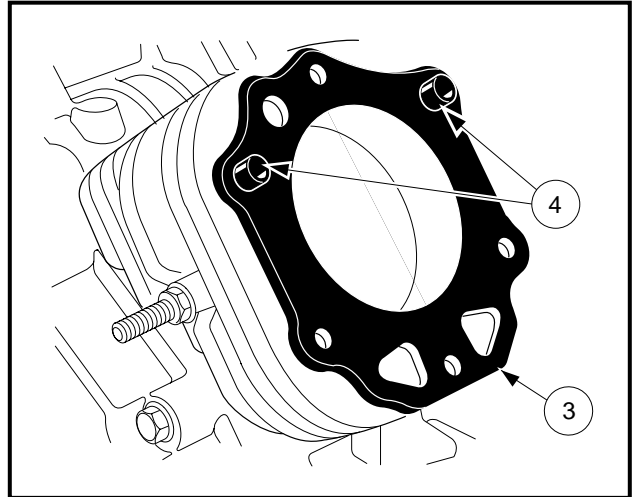

Figure 13-13 Remove Head Gasket
2. Remove head gasket (3). Note the position of the two dowels (4) as shown (**Figure 13-13, Page 13-11**).